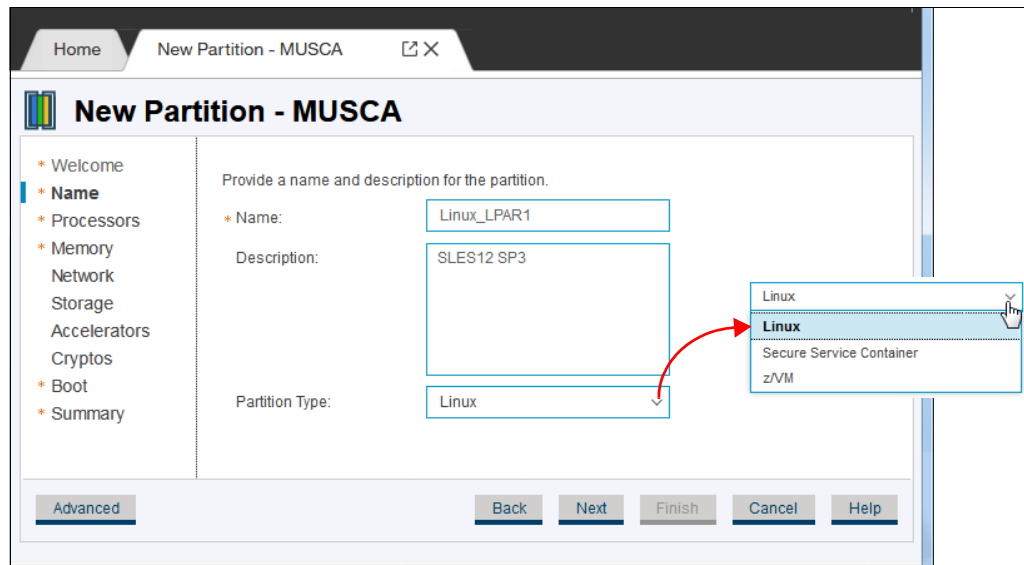

Figure 16-31 Partition name, description, and type
- The basic information for a partition (name, description, and type) are configured in the next menu, as shown in Figure 16-31. We select the partition type as **Linux** and click **Next**.